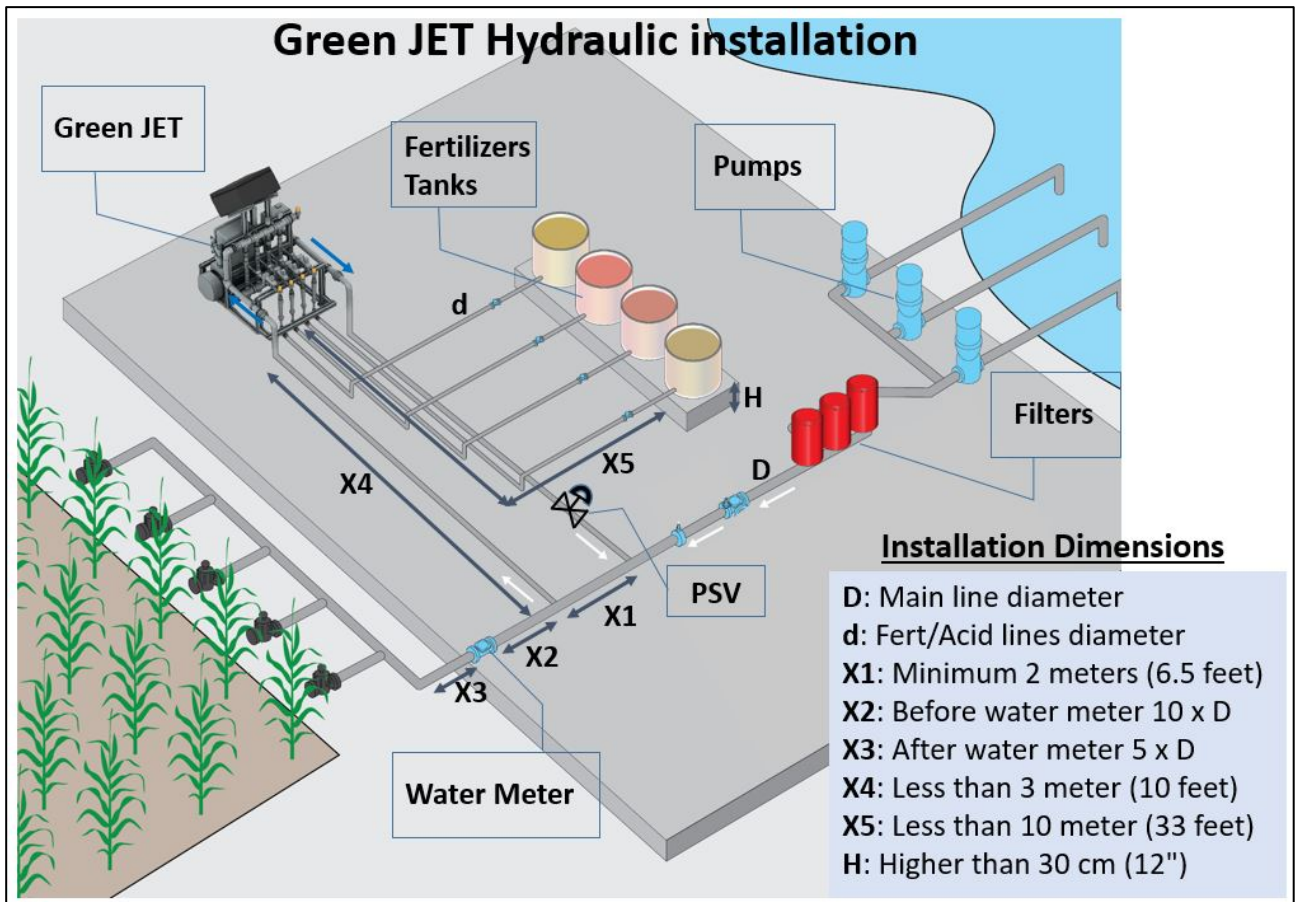

Figure 6: Green JET Schematic
- The fertilizer tanks must be installed as close as possible to the Green JET. It is recommended to keep a maximum pipe length of 10 meters/33 feet (refer to **X5** in Figure 6: Green JET Schematic). Nevertheless there has to be enough space between the fertilizer tanks themselves and between the Green JET so that inspection and maintenance operations can be carried out.
- The fertilizer tanks must be at least the same level as Green JET if not higher (refer to **H** in Figure 6: Green JET Schematic).
- Recommended PVC pipe diameter (refer to **d** in Figure 6: Green JET Schematic) from the tank to the system is 40mm (1.5 inch). The hose connection of the Green JET is suitable for a ½ inch **reinforced** flexible,
*NOTE A distance of about 2 meters/6.5 feet (refer to **X1** in Figure 6: Green JET Schematic) should be maintained between inlet and outlet connections of the Green JET to the irrigation mainline (to improve EC pH control).*